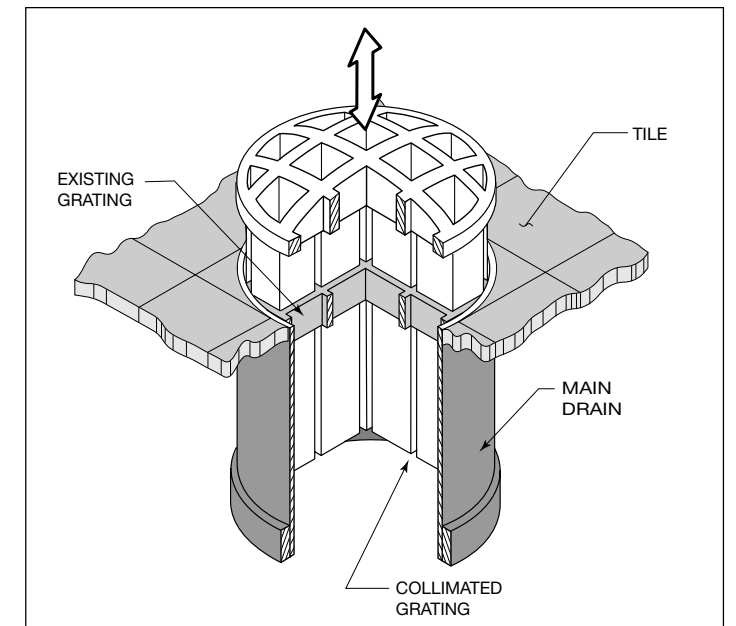

Figure 10 – Collimated Grating Over a Fixed Grating
5. A method of retrofitting a conventional grating with a collimated design is shown in Fig. 10.